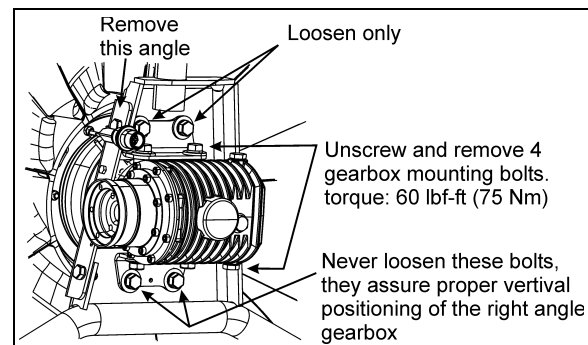

FIGURE 21: RIGHT ANGLE GEARBOX MOUNTING 05126
5. Dismount the angle (see fig. 21).